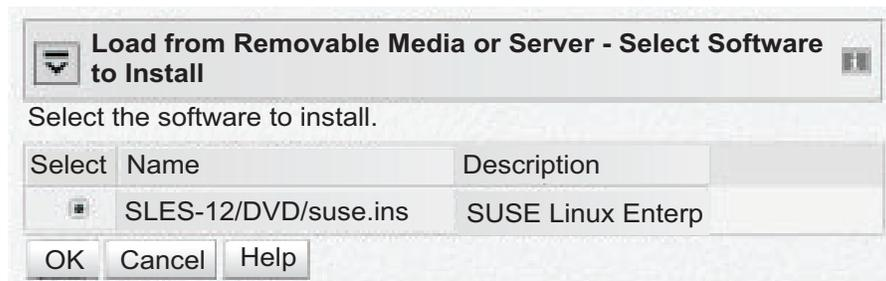

Figure 20. Select Software to Install panel
5. Click **Continue** to display the Select Software to Install panel (Figure 20).